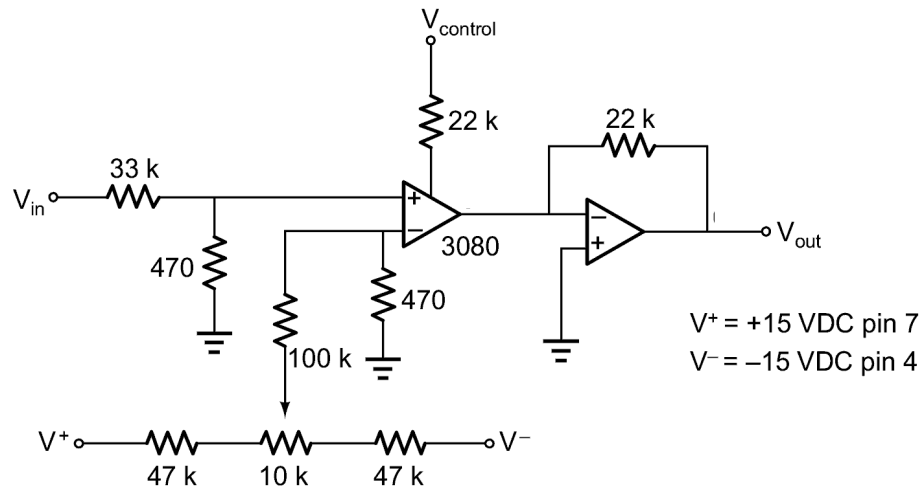

Figure 1
1. Assemble the circuit of Figure 1. Note that the power supplies are only  $\pm 5$  VDC, not the usual  $\pm 15$  VDC.